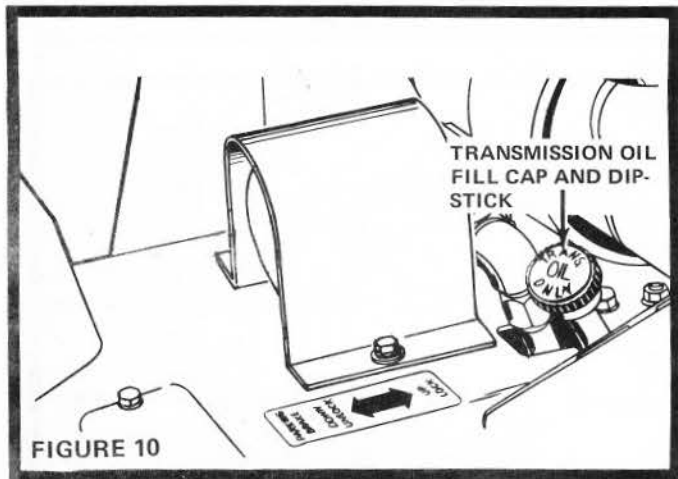
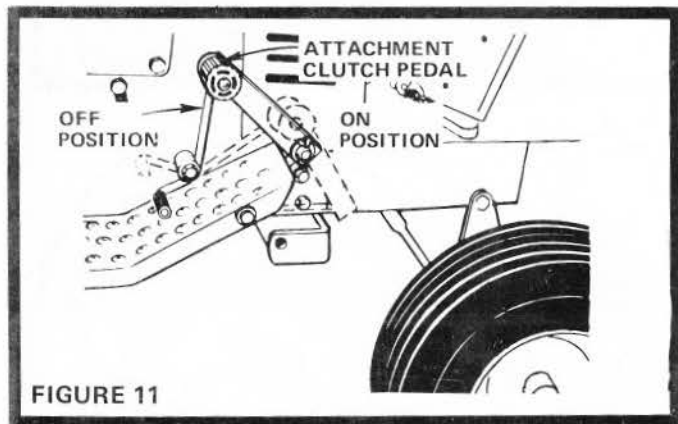
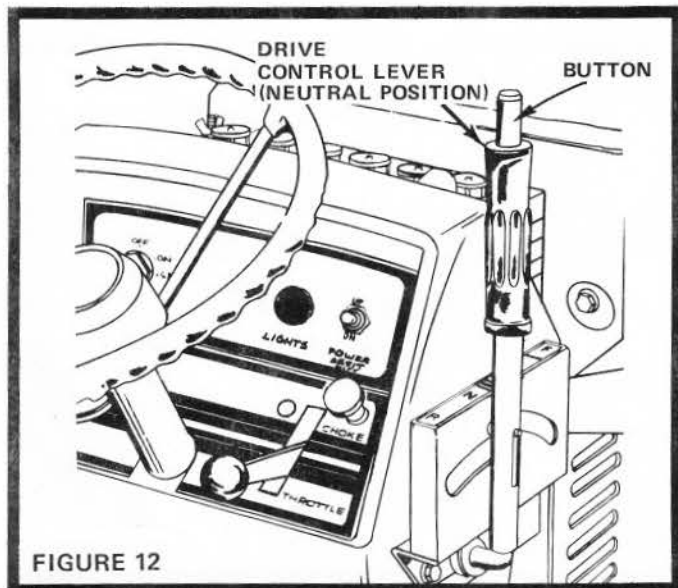

FIGURE 10
FIGURE 11
FIGURE 12
THIS TRACTOR IS EQUIPPED WITH SAFETY SWITCHES TO PREVENT STARTING OF THE TRACTOR ENGINE WHILE THE ATTACHMENT CLUTCH PEDAL IS IN THE "ON" POSITION (FIG. 11) AND THE DRIVE CONTROL LEVER IS IN "F" FORWARD OR "R" REVERSE POSITIONS (FIG. 12).
2. Check Hydrostatic Transmission Fluid Level (Fig. 10) with engine running and Drive Control Lever (Fig. 12) in neutral position. Add fluid if necessary to bring level up to "SAFE" mark on dipstick. NOTE: Cap and Dipstick must be screwed in tight to check fluid level. Do not fill above "SAFE" mark on dipstick. Use automatic transmission fluid "TYPE F" only.
1. Place Attachment Clutch Pedal in "OFF" position (Fig. 11).
2. Move Drive Control Lever to "N" neutral position (Fig. 12).
3. Press Button (Fig. 12) on Drive Control Lever and slowly move Lever forward and tractor will begin to move.